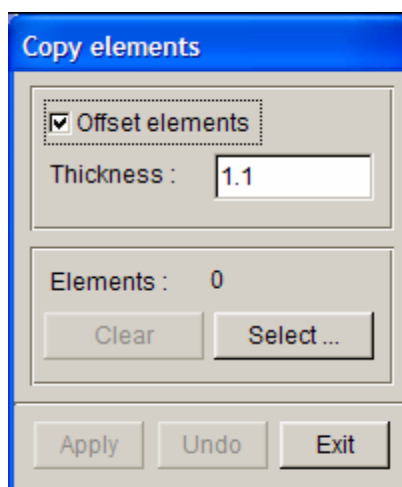

Figure 7.19 Copy elements dialog box
11. Click **Copy Elem...** button to display COPY ELEMENTS dialog box illustrated in Figure 7.19.